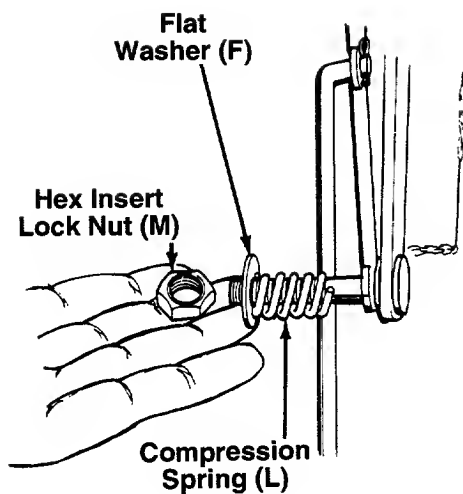

FIGURE 12.
18. Secure with flat washer (F), compression spring (L) and hex insert lock nut (M). See figure 12. Tighten lock nut until compression spring returns the shift lever into detent slots on handle panel.